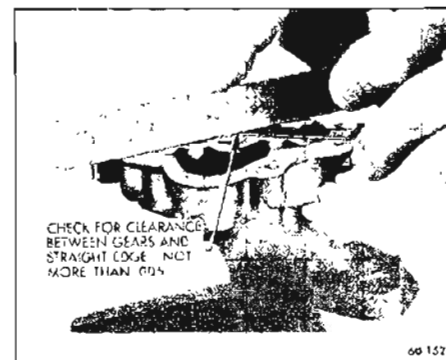

Figure 60-346—Checking Oil Pump End Clearance
3. Place a straight edge over the gears and measure the clearance between the straight edge and the gasket surface. See Figure 60-346. Clearance should be between .0023" and .0058". If clearance is less than .0018" check timing chain cover gear pocket for evidence of wear.